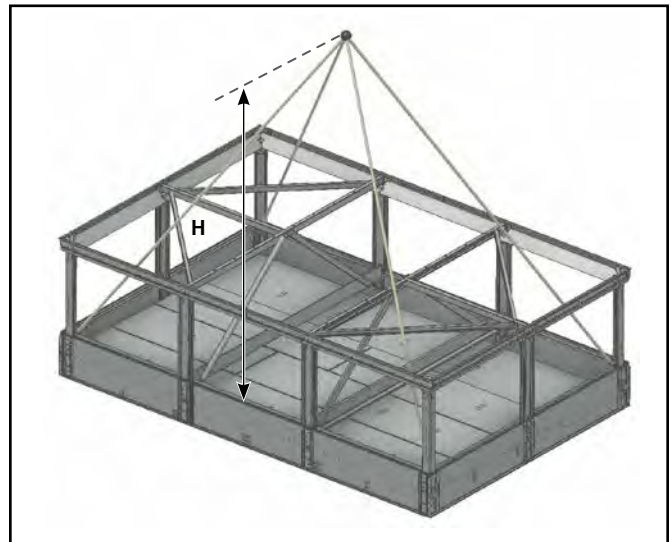

Figure 7a – Lower Section Three-Piece Lift
1. Figures 7a, 7b, and 7c show the proper rigging of sections for units that ship in three sections.